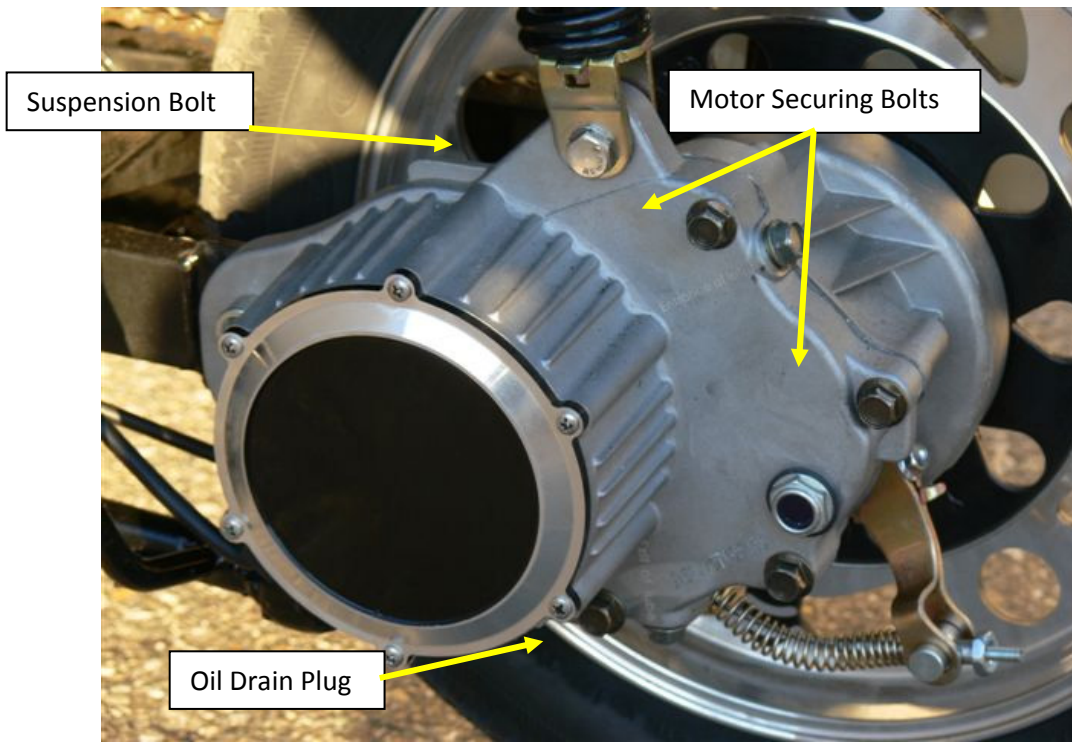

Figure 1
- 1) Drain the lubrication oil from the Motor. (Figure 1 below shows the drainage plug)
- 2) Remove the lower suspension bolt attached to the motor. (Figure 1)
- 3) Remove the five bolts that secure the motor to the wheel housing. (Figure 1)